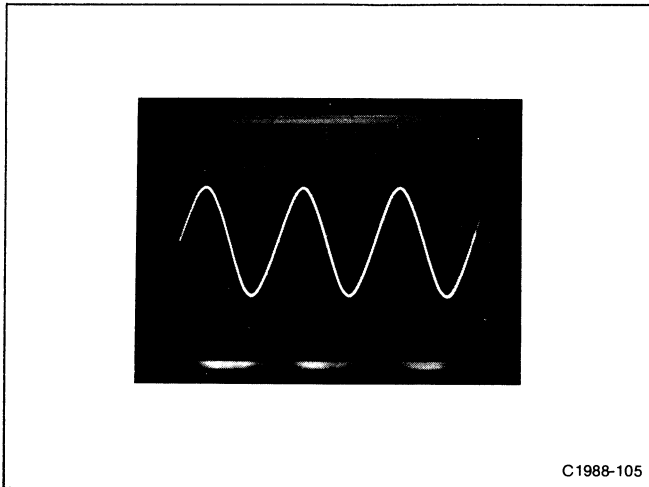

Figure 4-7. Waveform at TP34 on the Power-Supply Inverter board with the line voltage at about 20 V.
- If no burst waveform occurred in part 4, repeat part 1 of this step. Then remove the current probe from the R7103 and the test oscilloscope. Connect a 10X voltage probe from the test oscilloscope to TP34 on the A23 Inverter Board (provided that access to that board has already been gained, remove the line inverter shield from the circuit board. TP34 is marked "TANK" on the A23 Inverter Board.) Set the variable autotransformer for 20 volts and check for a line-ripple waveform which is about dc centered (see Fig. 4-7). If the waveform is not centered check Q46, CR32, CR40, CR249, and CR45 on the A23 Inverter Board for shorts or leakage.